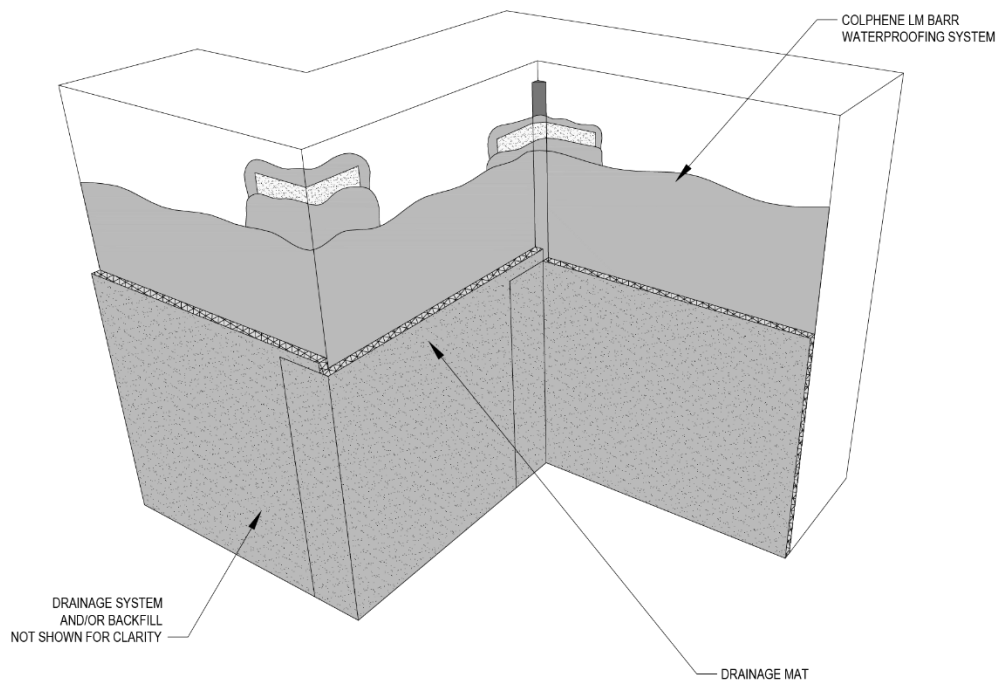
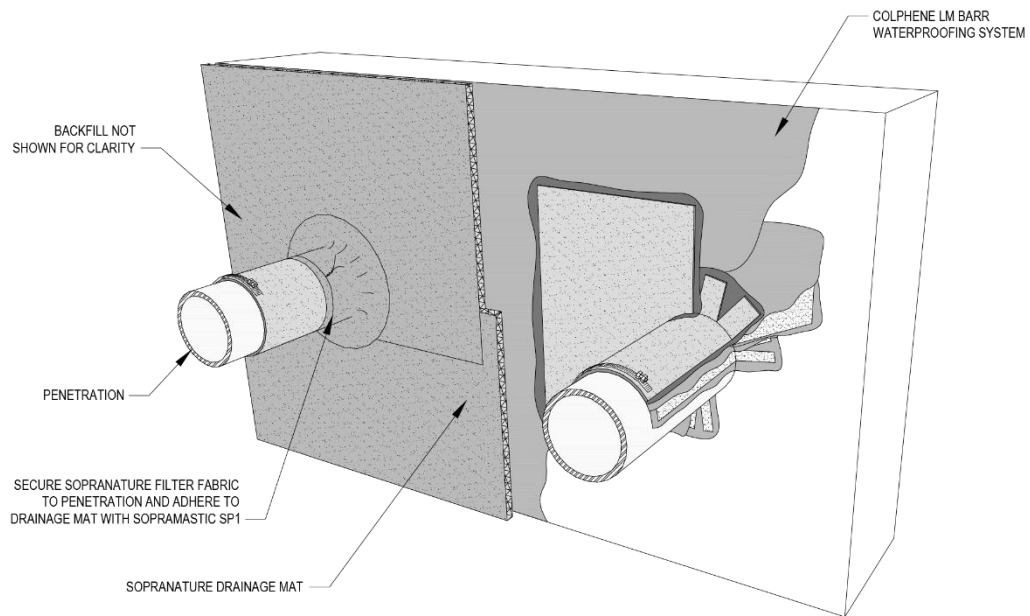
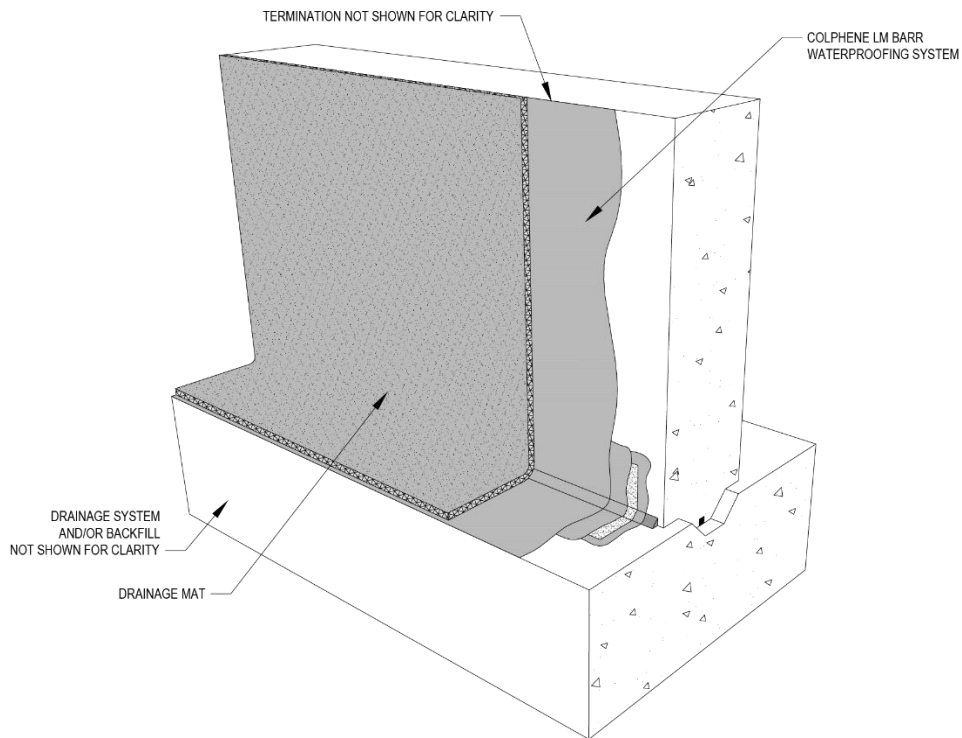

Figure 3.1d Drainage Mat Protection Course At Inside/Outside Corners
Figure 3.1i Drainage Mat Protection Course At Penetrations
Figure 3.1n Drainage Mat Protection Course At Transitions
- Before installing the drainage mat, unroll the mat and cut the material to conform to foundation wall conditions. Refer to Figure 3.1d, Figure 3.1i, and Figure 3.1n.
- Tie filter fabric to penetrations. Refer to Figure 3.1i.